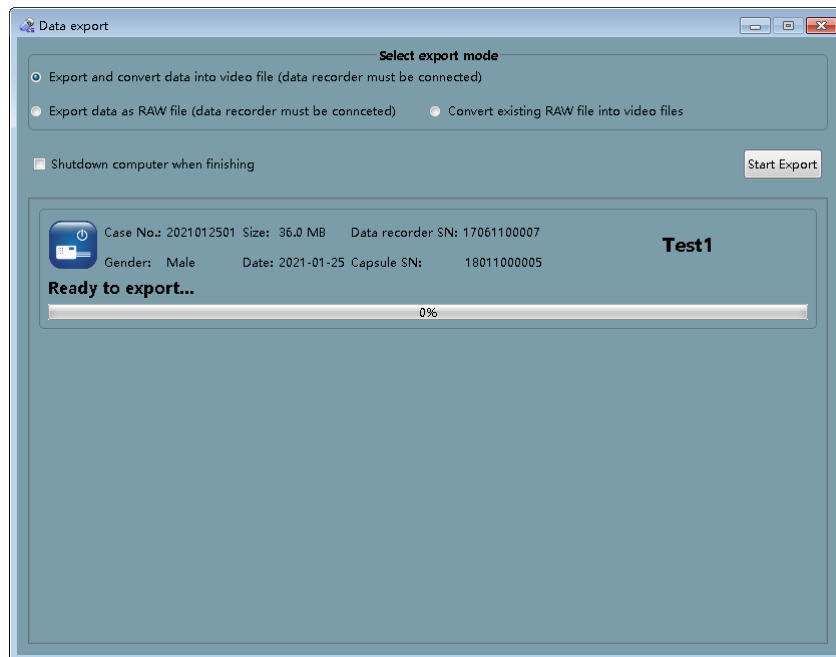

Figure 4-5: Data Export Interface
1. In the main software interface, select “Tool”→“Data export” in the menu to access the data export interface (Figure 4-5)